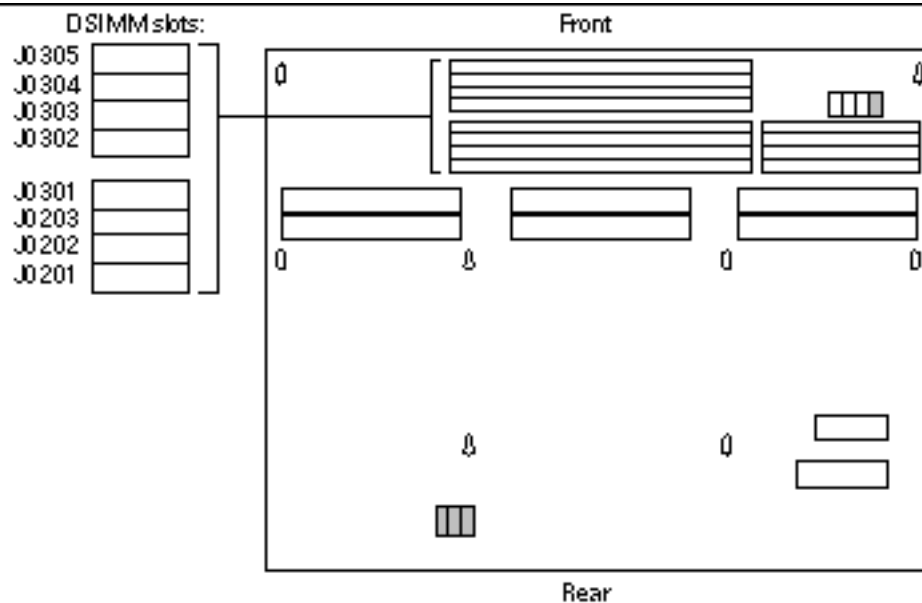

Figure 8-1 Location of DSIMMs on the MLB
3. Locate the DSIMM slots on the main logic board (MLB). See Figure 8-1.